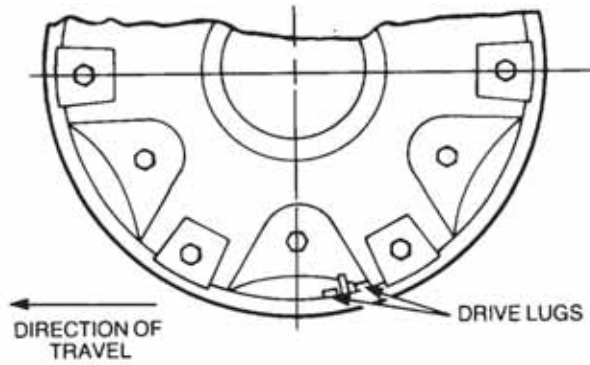
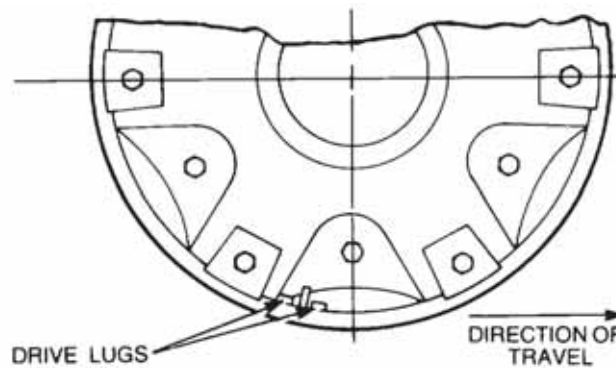

Figure 19 Left Side Wheel – Drive Lug Location
Figure 20 Right Side Wheel – Drive Lug Location
- 55. **Installation.** Replace the wheels as follows (Figures 19 and 20):
Ensure that the drive lugs are positioned as shown in Figure 19 for a left side wheel or Figure 20 for a right side wheel.
- a. Position the inner wheel on the hub using suitable lifting equipment, ensuring that the valve stem points away from the trailer and the drive lugs are positioned correctly (Figures 19 and 20).